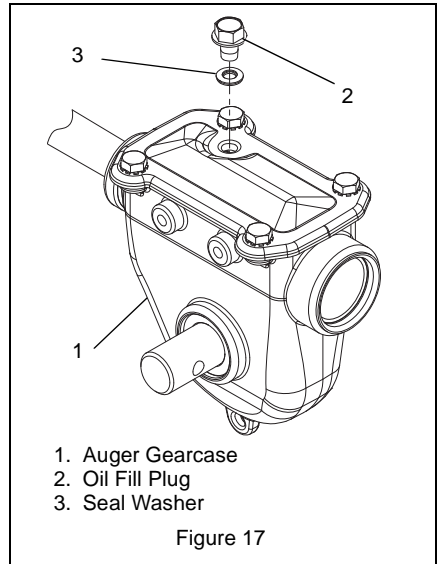

Figure 17
(Figure 17)
1. Remove filler plug and seal washer (Figure 17). Lubricant must be 2.38" – 2.63" (6.05 cm – 6.68 cm) from the flat surface of the gear case cover.
IMPORTANT: Be sure to install seal washer with rubber side down (Figure 17).